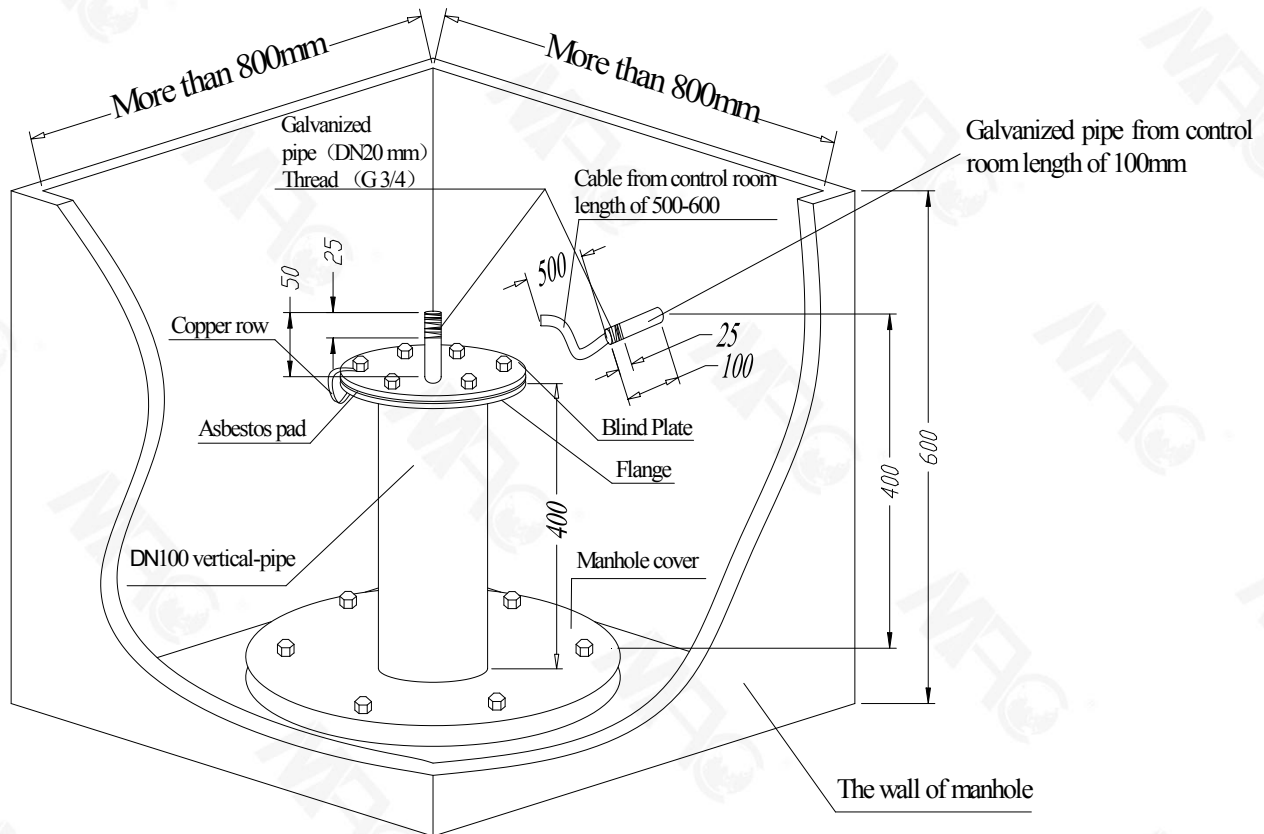

Figure 1. Reformation of the wall of manhole
1. Welding the vertical-pipe and blind plate on the manhole cover of the tank (As shown in Figure 1.)
- The part of the galvanized pipe exposed from the wall of manhole should be 100mm, with an outer thread (G3/4) length of 25mm. The length of the communication cable exposed from the pipe is 500-600mm (as shown in Figure 1), and please ensure that there is no barrier within 150mm around it and 300mm ahead of it.